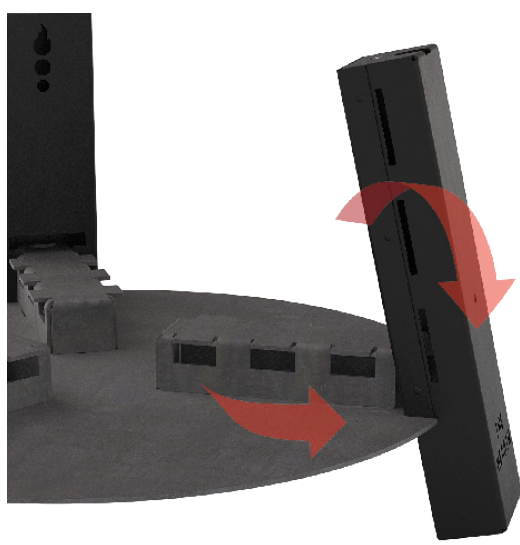

FIGURE 5
Step5: When both sets of prongs on the Air Channel Cover (A) are lowered into the Base Plate (B), slowly pivot leg (L or HL) as shown in Fig. 5. This will lock the Air Channel Cover (A) to the leg and Base Plate (B).